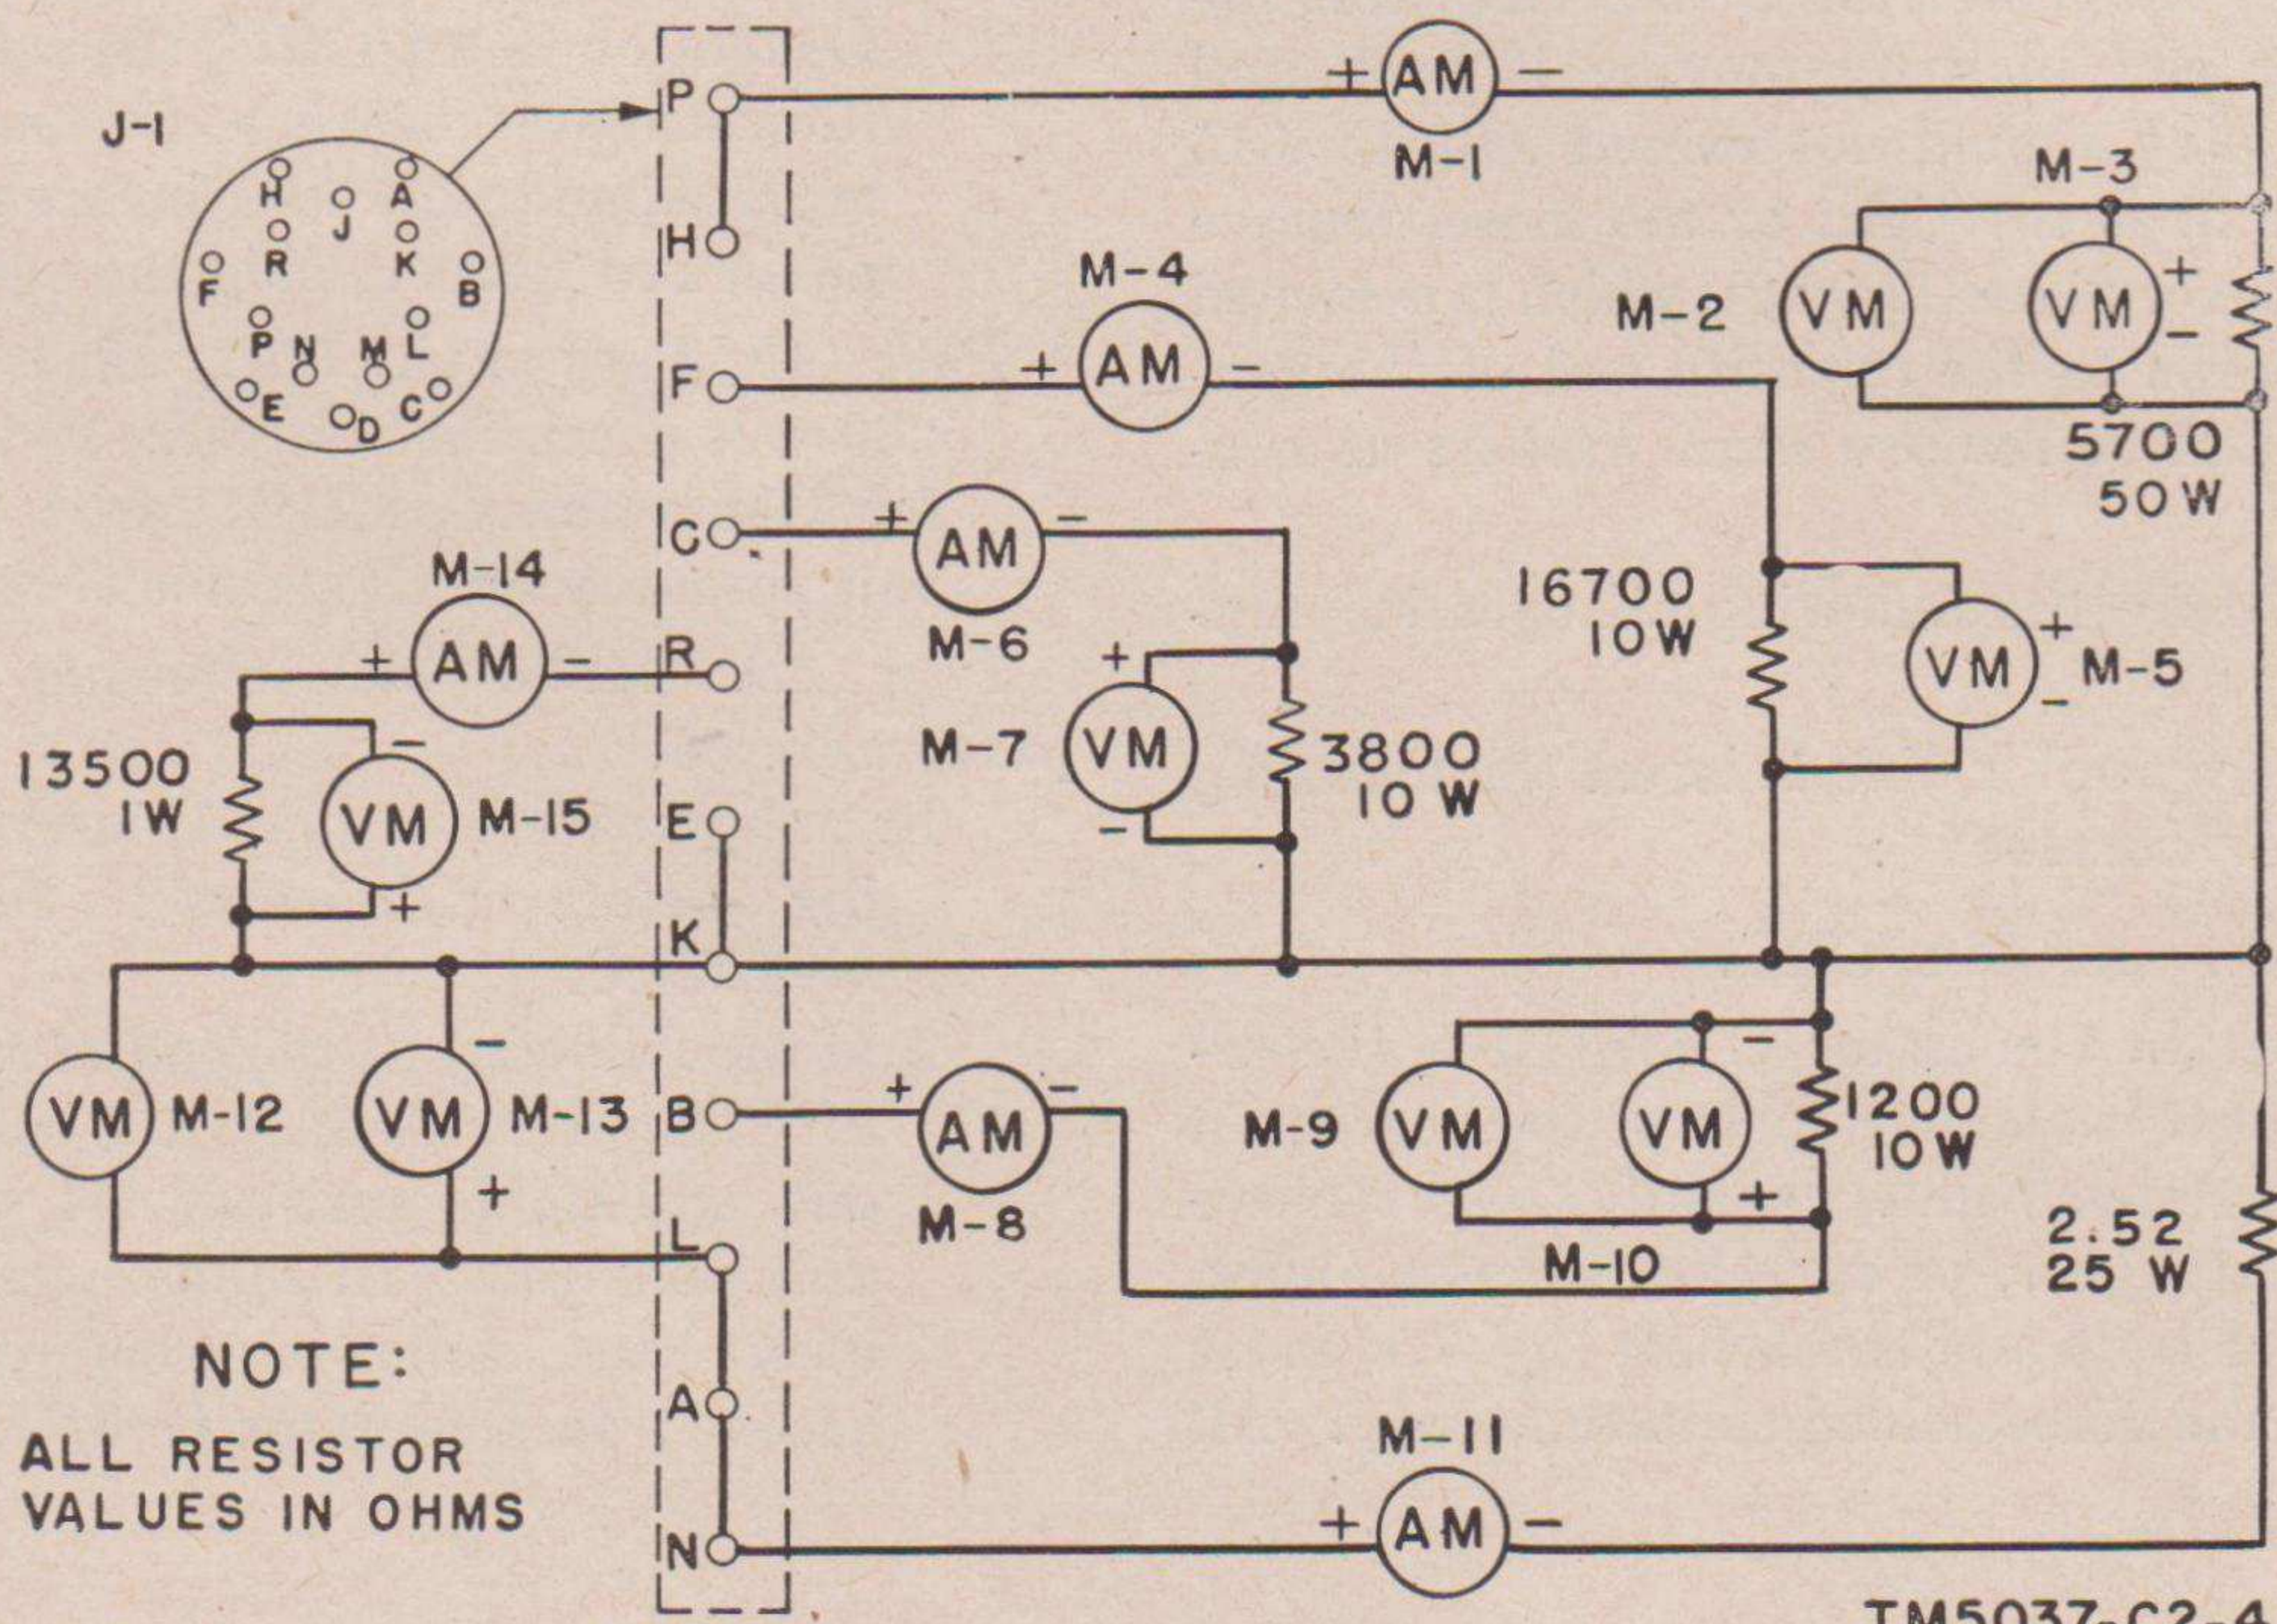

Figure 8.1 (Added). Generator G-8A/GRC, operational test setup.
Page 15. Paragraph 45a. Line 3. Change "on figure 8" to read: **in figure 8 for Generator G-8/GRC or in figure 8.1 for Generator G-8A/GRC.**
b. Output Voltages, Generator G-8A/GRC (fig. 8.1).